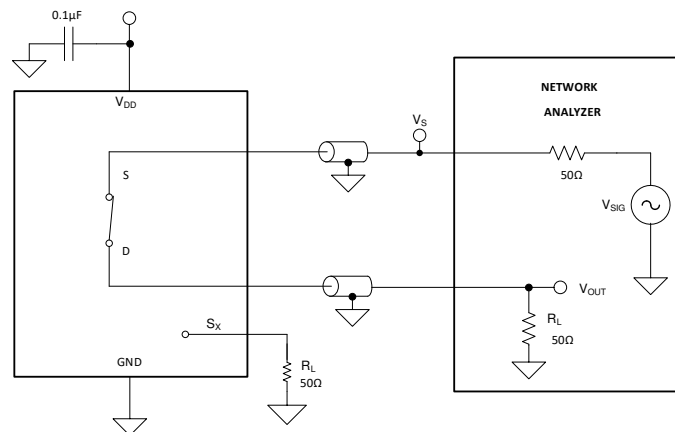

图 6-10. Bandwidth Measurement Setup
Bandwidth is defined as the range of frequencies that are attenuated by less than 3dB when the input is applied to the source pin (S_x) of an on-channel, and the output is measured at the drain pin (D) of the device. 图 6-10 shows the setup used to measure bandwidth.